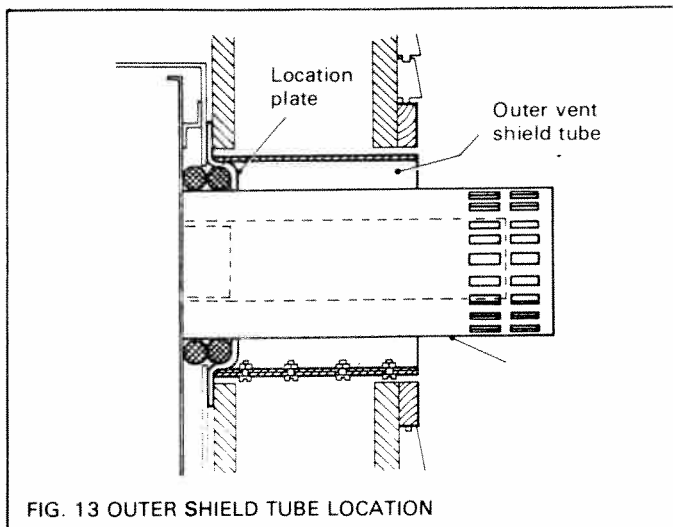

FIG. 13 OUTER SHIELD TUBE LOCATION
- Insert the shield tube into the wall from the outside wall. Push the tube firmly in so that it locates fully over the dished ring of the vent location plate on the fireplace back. Trim the tube if necessary (see fig. 13).